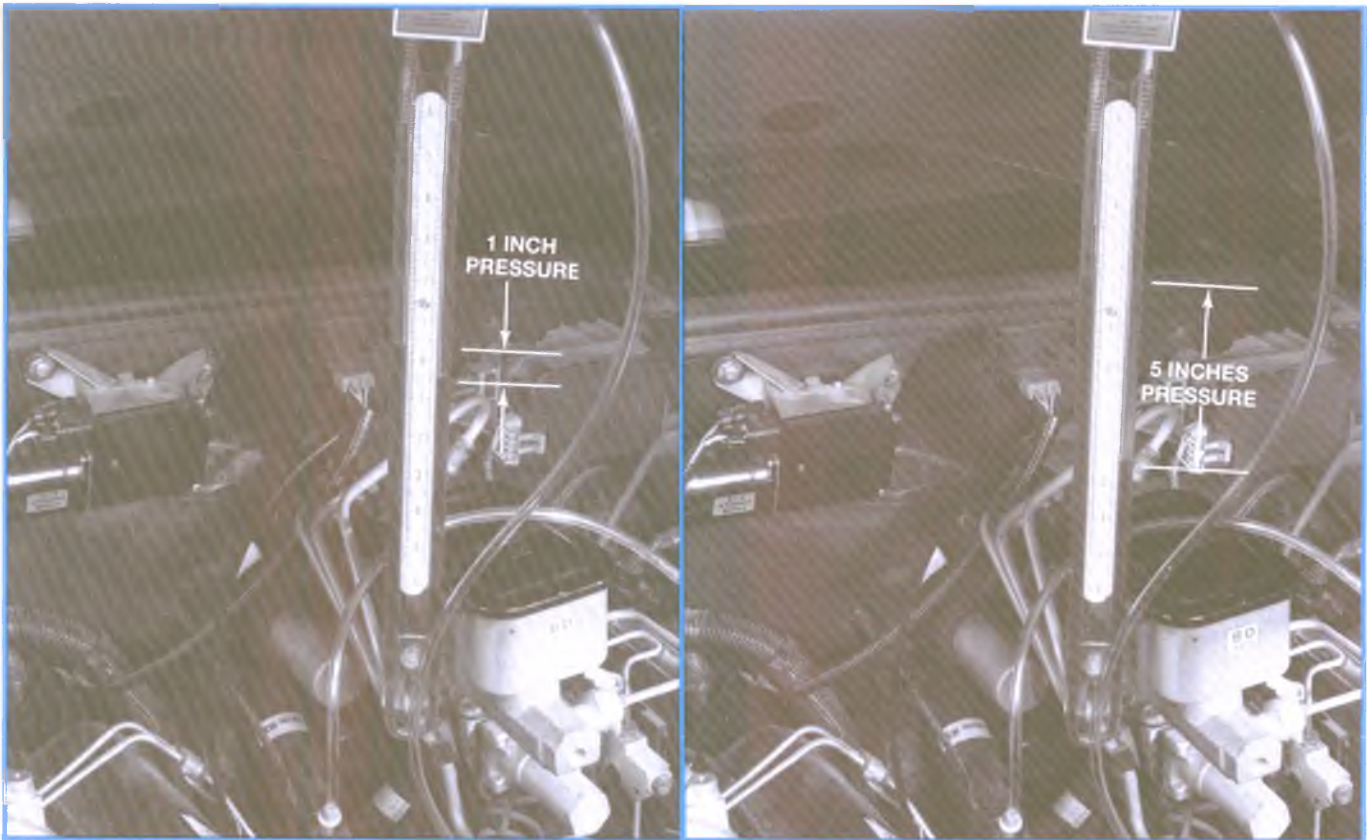

Figure 6-22, Crankcase Pressure Check at Idle Speed
4. Start and run the engine at idle speed, observing the water manometer reading (see Figure 6-22):